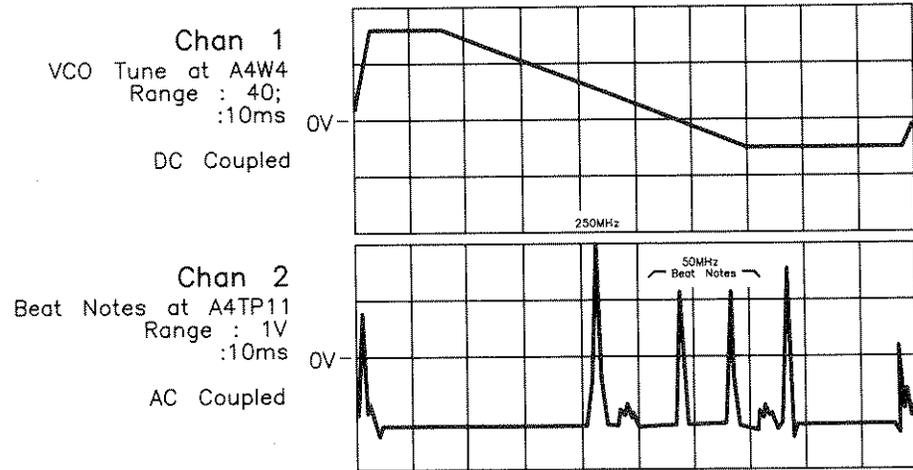

Figure 5-12. Frequency Response at Notch Filters, 520 MHz Setting.
16. Set the Signal Generator frequency to 520 MHz and observe the oscilloscope Chan 2 display. The beat note levels should resemble those shown for channel 2 in Figure 5-12. (the 50 MHz beatnotes are shown with nonadjusted levels.) Adjust A4L39 (50 MHz Notch Filter) until the 50 MHz beat notes are at their minimum amplitude.